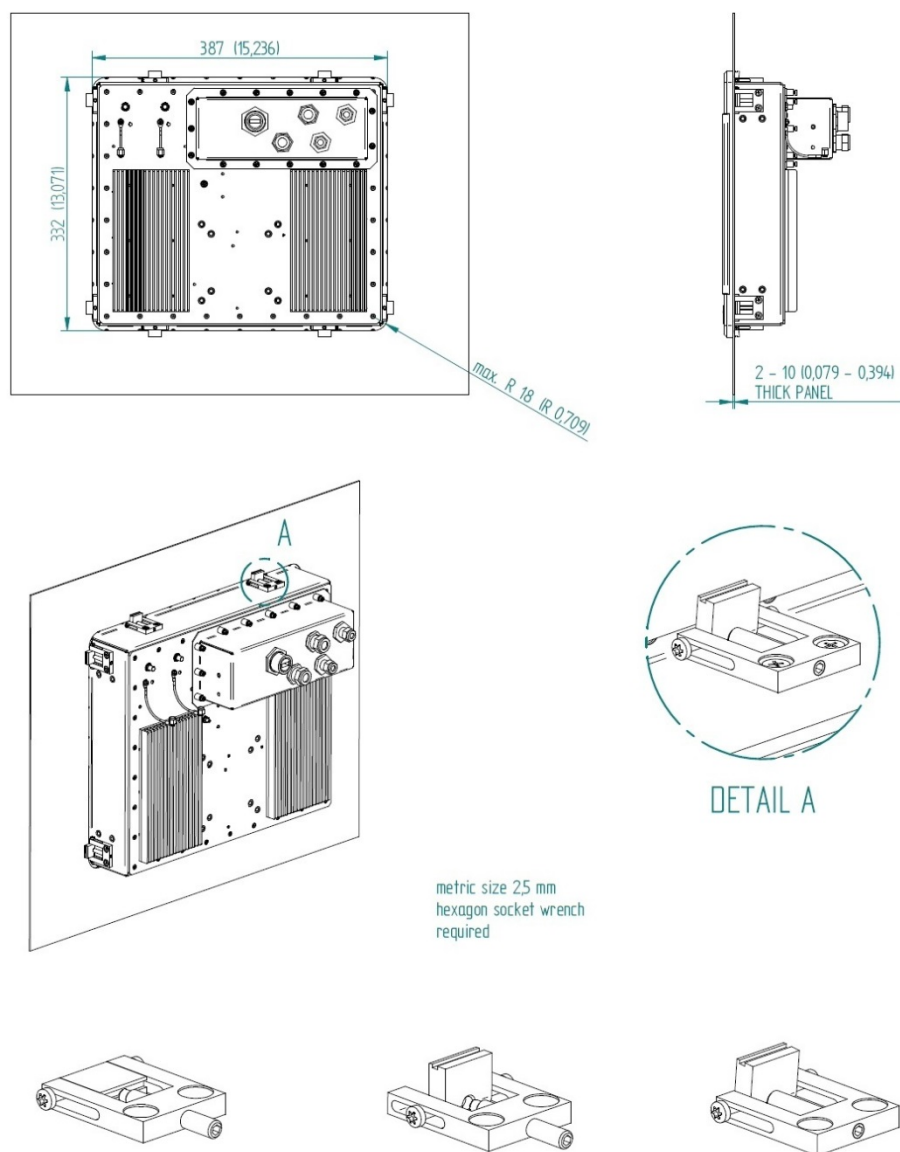

Figure 7: Wolverine III Panel Mount Option
2. Attach the brackets to the unit as shown in Figure 7, below.